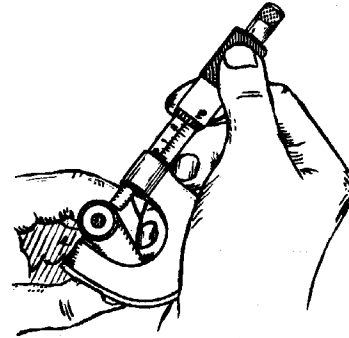

FIG. 9 MEASURING STOCK
1. The frame of the micrometer is held in the palm of the right hand by the little finger (or the third finger, whichever is more convenient), allowing the thumb and forefinger to be free to revolve the thimble for the adjustment (Fig. 9).
2. Place the work between the anvil and the spindle. Turn the thimble until its movement has brought the spindle and the anvil in contact (Fig. 9).